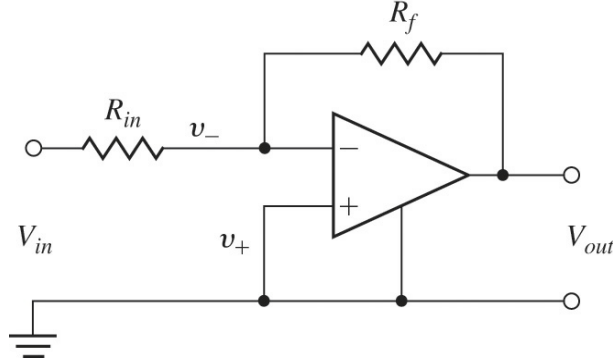

Fig. 2.50 Circuit for Problem 2.13
13. A first step toward a realistic model of an op amp is given by the equations below and shown in Fig. 2.50.